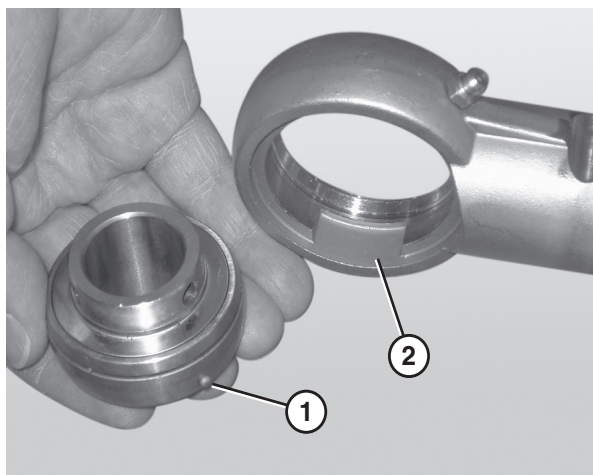

Figure 89
4. Remove the worn or damaged bearing (**Figure 89**).
When inserting the new bearing, make sure the anti-rotation notch (Figure 89, item 1) on the bearing lines up with the groove inside the housing (Figure 89, item 2).